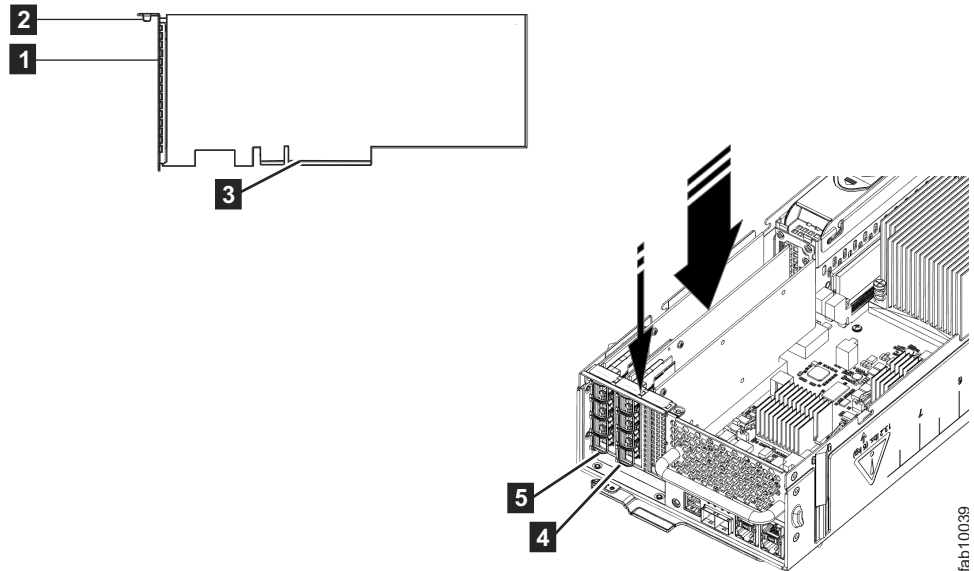

Figure 118. Installing the host interface adapter
6. Remove the replacement host interface adapter **1** from its package. Figure 118 on page 373 displays installing the host interface adapter.